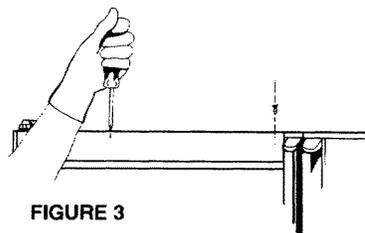

FIGURE 3
2. REPLACE TWO SCREWS. Temporarily replace two screws to hold the door face trim strip underneath. DO NOT REMOVE THE DOOR FACE TRIM STRIP FROM THE DOOR. See Figure 3.